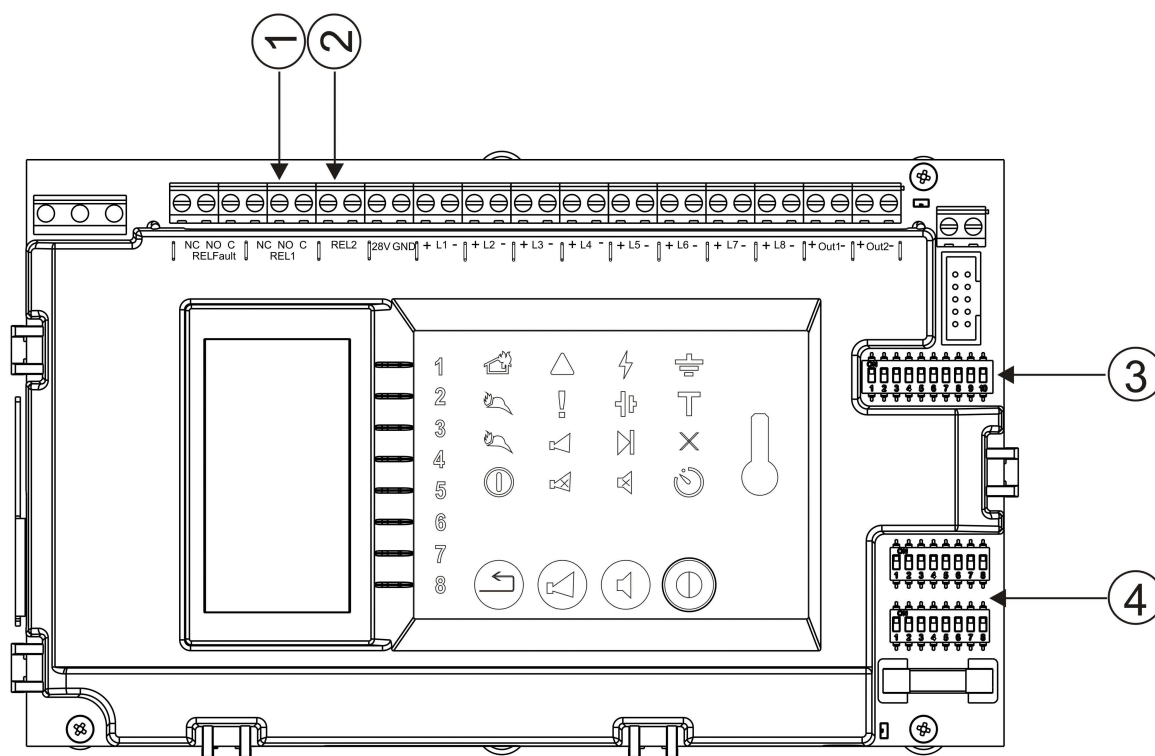

Fig. 1
- defining operation mode of the lines (pos.4, fig.1);
- defining time delay (pos.3, fig. 1);
- disabling monitored outputs (pos.3, fig. 1);
- switching on/off communication interface RS485 (pos.3, fig .1);
- configuring of outputs with 8 steady set user combinations (pos.3, fig .1)
- disabling "Earth FAULT" (pos.3, fig. 1);
- disabling "Check Rem. Det. (pos.3, fig. 1).